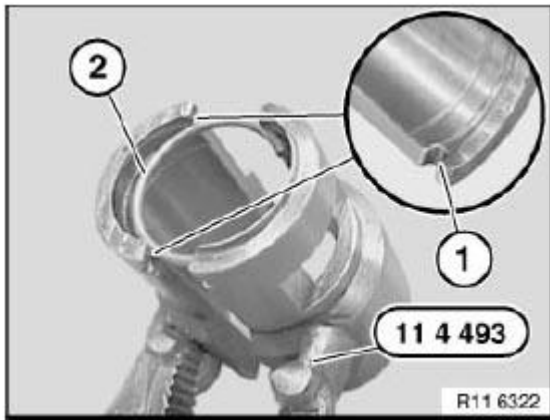

Fig. 149: Inserting Piston Circlip Into Groove Of Special Tool
Insert piston circlip (2) into groove (1) of special tool 11 4 493. See **Fig. 149**.